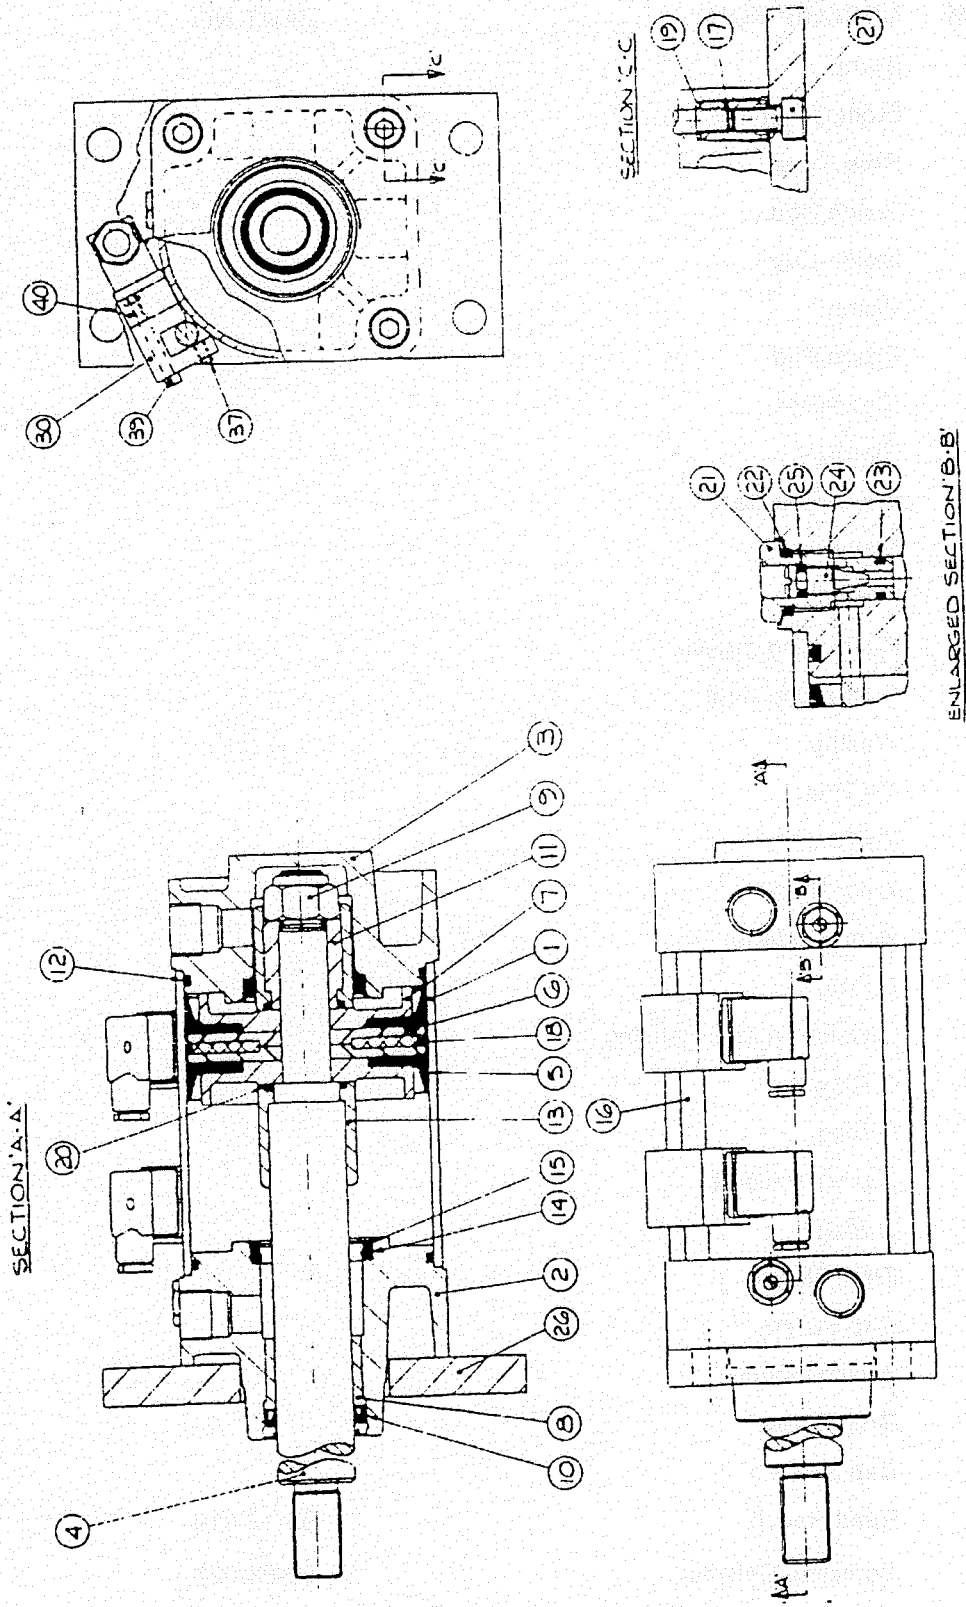

Figure 4.2 Guillotine Cylinder
- Figure 4.2 Guillotine Cylinder